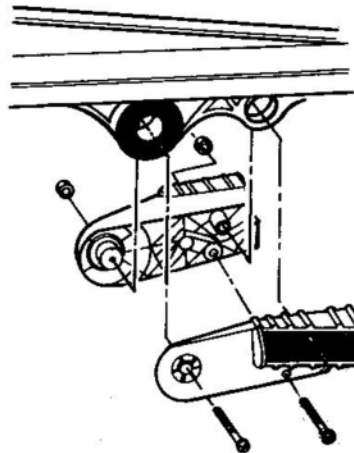

FIG 54
2. To replace front A.V. mount rubber – Remove 2 screws A & B, split handle housing, replace rubber mount and reverse procedure to assemble Fig 54.